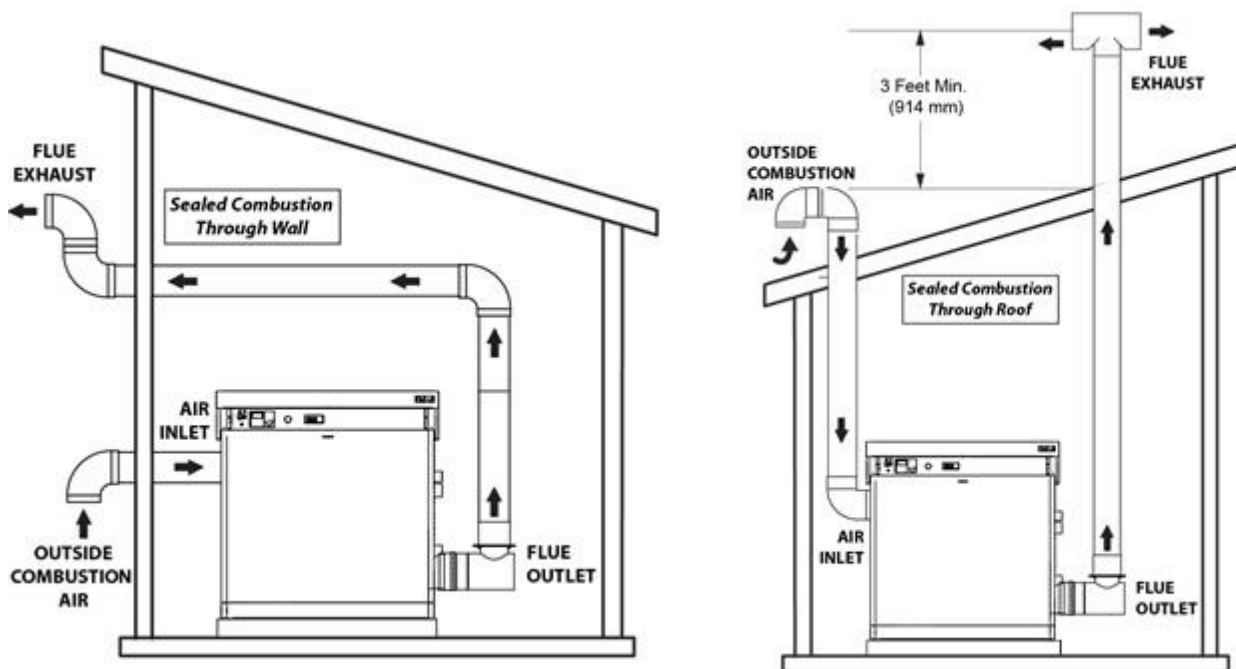

Figure 7: Sealed Combustion Air Inlet and Vent Outlet Locations (Wall & Roof)
9. When using sealed combustion, the combustion air inlet and vent outlet must be located on the same surface (same wall, roof, etc.). See Figures 7. This is required so that equal pressure zones are acting on both the air inlet and vent outlet. This makes the installation a balanced vent system, which helps maintain stable combustion characteristics.